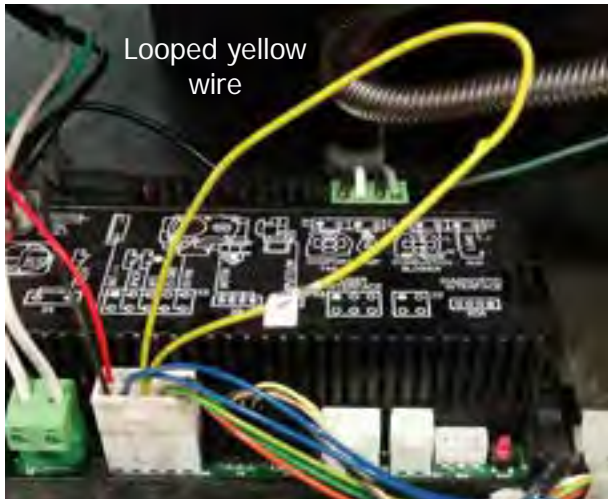

Figure 21: Location of the pressure switch wire
b. Locate the looped yellow wire within the wiring harness of the large white plug shown in Figure 21. Note: the wiring harness cable tie may need to be cut for slack, replace the cable tie upon completion.